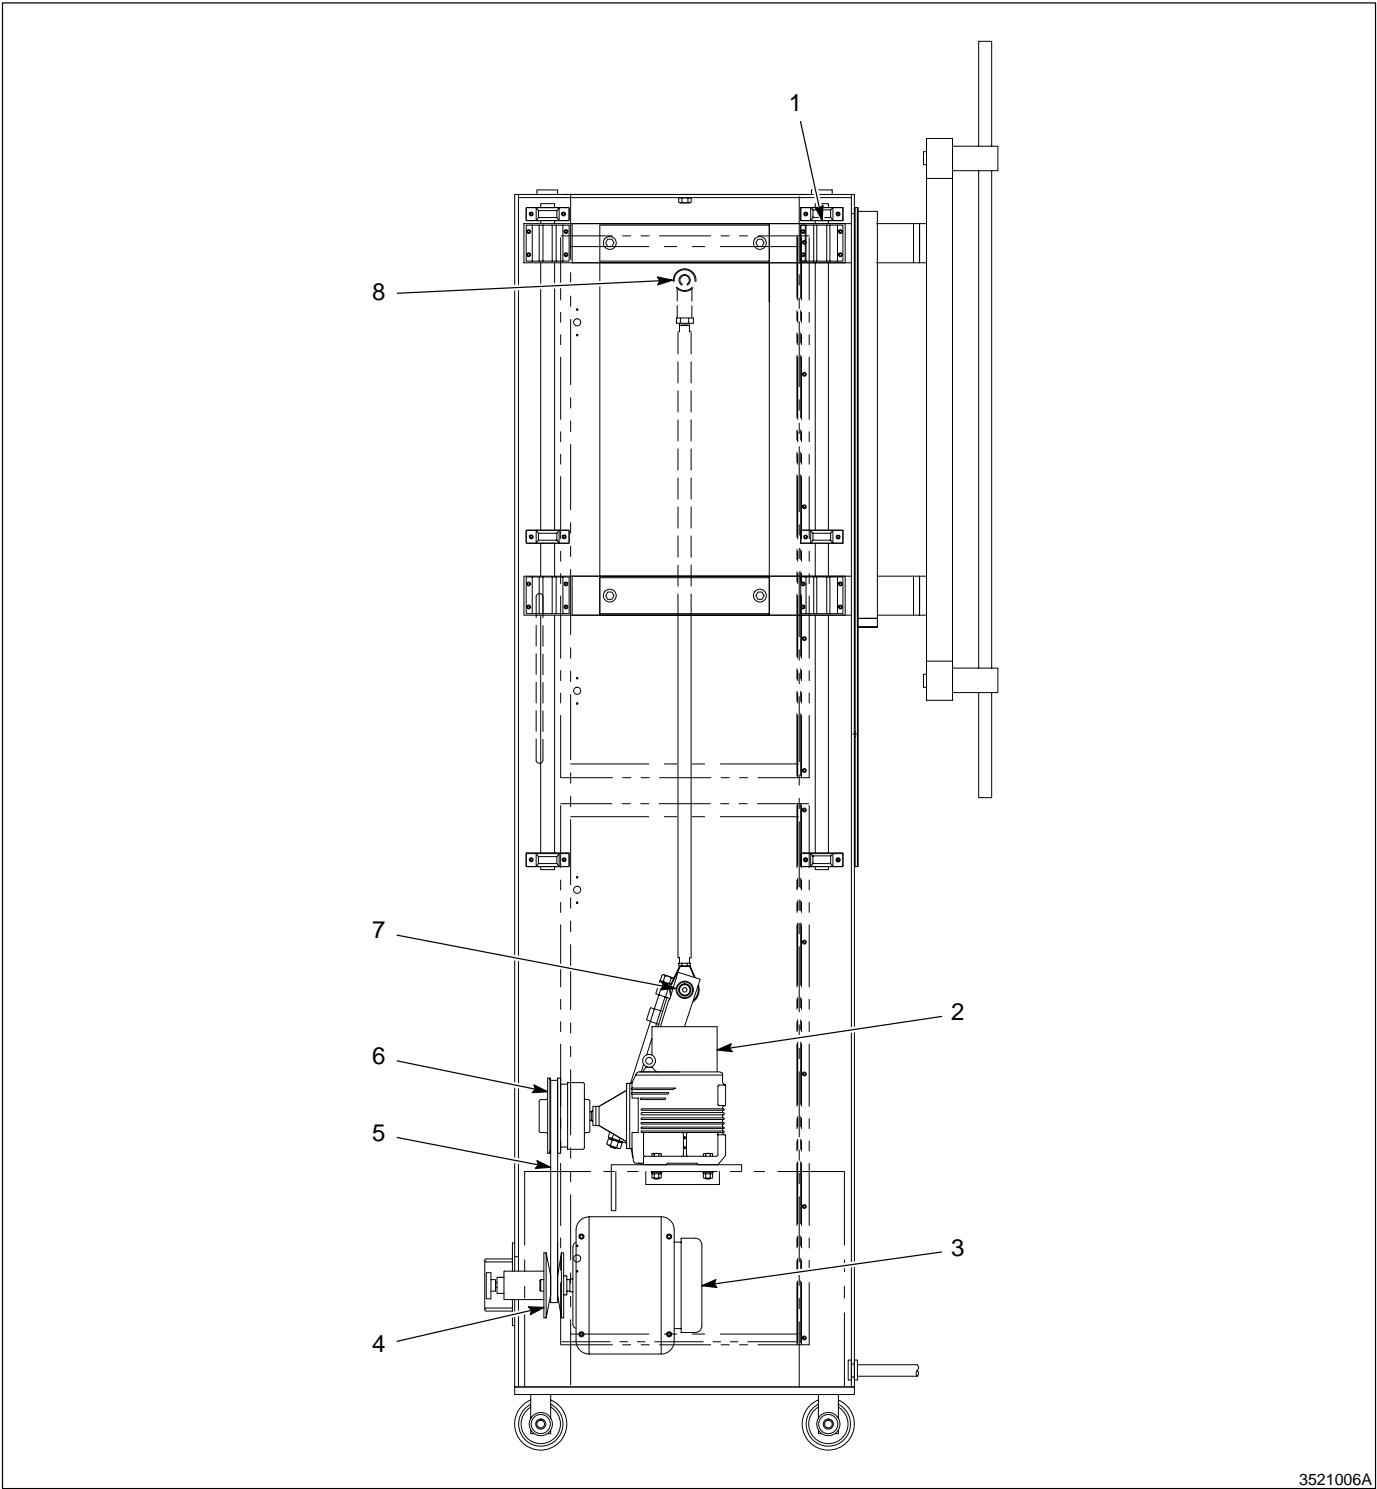

Fig. 8-1 Vertical oscillator illustrated parts
2. Vertical OscillatorSee Figure 8-1.